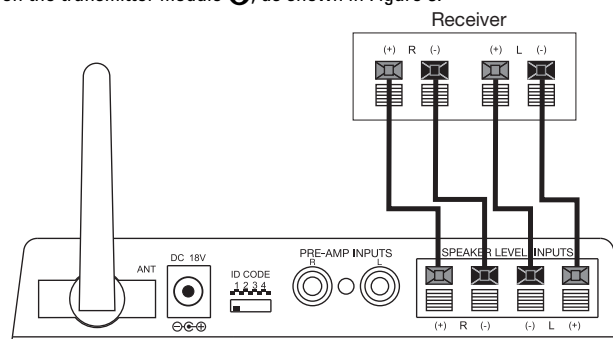

Figure 3.
Connect the speaker wire to the receiver’s speaker outputs and the inputs on the transmitter module ⑨, as shown in Figure 3.